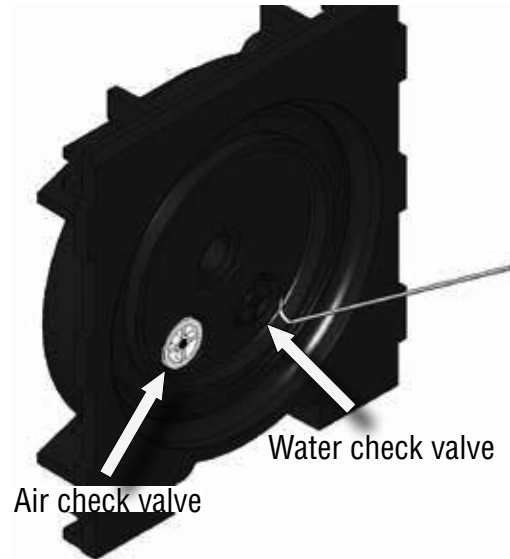

FIG 24-3
4. Remove check valve with a spring hook or dental pick. FIG 24-3.